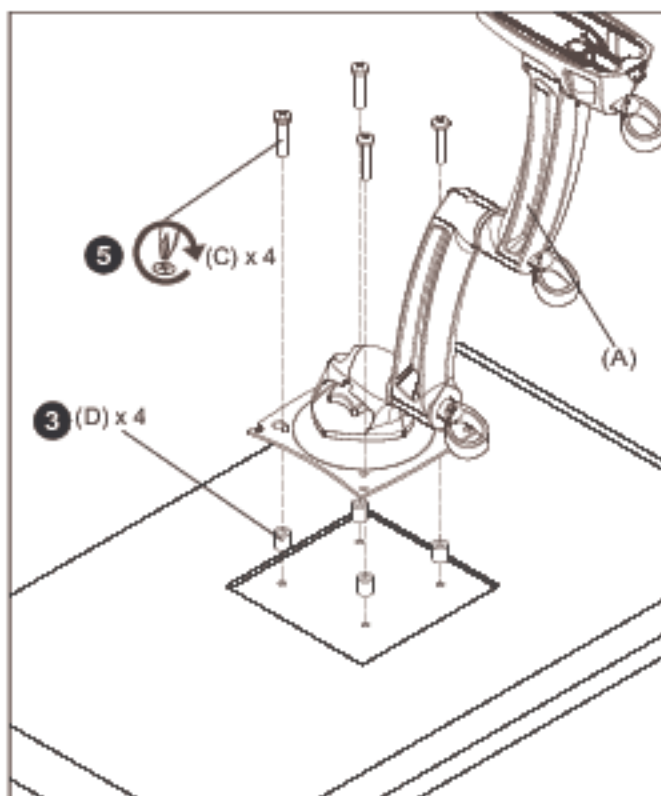

Figure 6
3. Place the four spacers (D) over each of the mount holes on the back of the display. (See Figure 6)
4. Pick up and orient the mount (A) so that the mounting holes are aligned with the holes in the spacers; rotate the bracket as required. (See Figure 6)
5. Using Phillips screwdriver, install four M4x25mm screws (C) through the mounting holes, through the spacers and into the display. (See Figure 6)